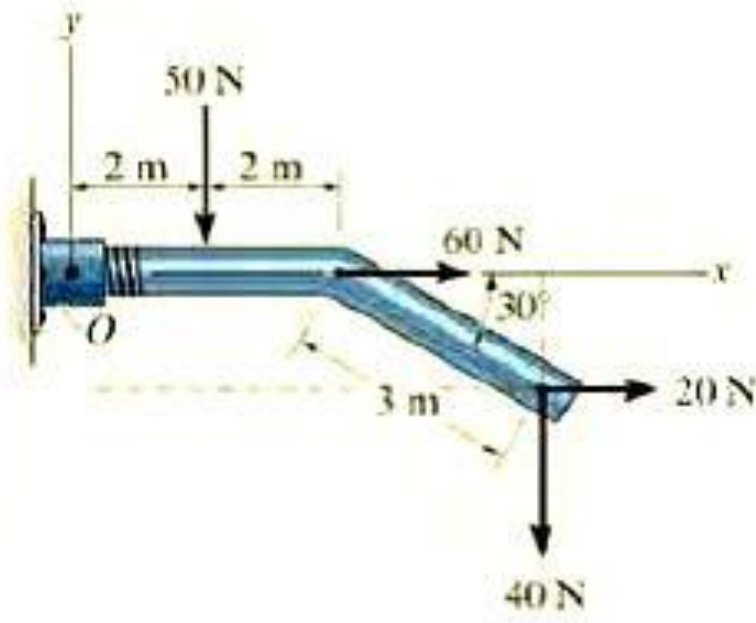

Figure Q2c Rod under loading
- (c) Determine the resultant moment of the four forces acting on the rod about point O shown in figure Q2c. [8]